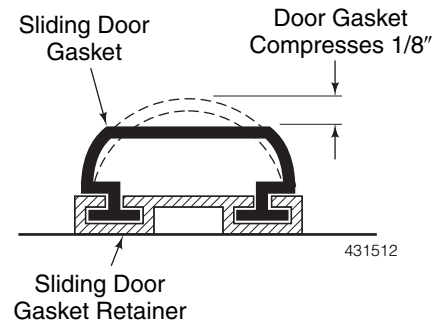

Figure 13
1. With the door in the closed position, the gasket should be compressed 1/8". Check the gasket at the four corners of the door for proper compression. See Figure 13.
2. Inspect the Sliding Door Gasket for proper 1/8" compression and light-tight seal. See *Figure 13*.